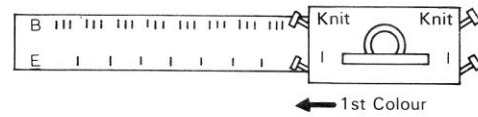

Fig.75
Using the 1 x 3 selector plate bring forward into position (E) from position (B) every 4th needle from the right end needle. (Fig.75)